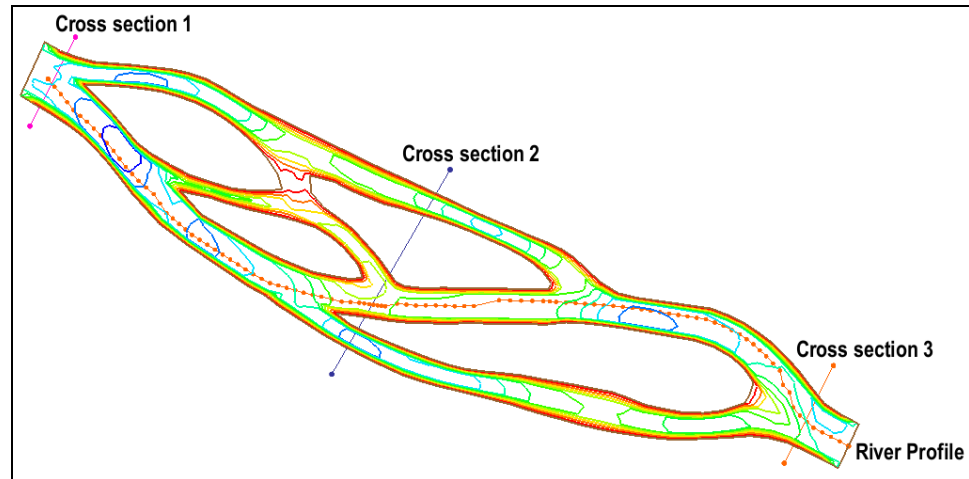

Figure 18 Profile and cross section arcs
10. Using the **Create Feature Arcs**  tool, create each of the three cross section arcs shown in Figure 18.
14. Enter “cs1” in the *Name* column for the “Cross section 1” arc (Figure 18).